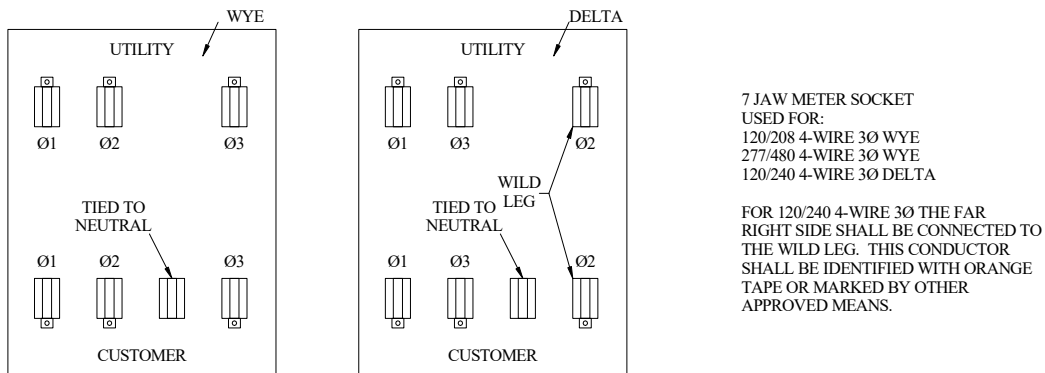

Figure 4-2
- Table 4-15 lists pre-approved meter sockets and Figure 4-2 shows the typical electrical connections for 200 ampere three phase, four wire applications.